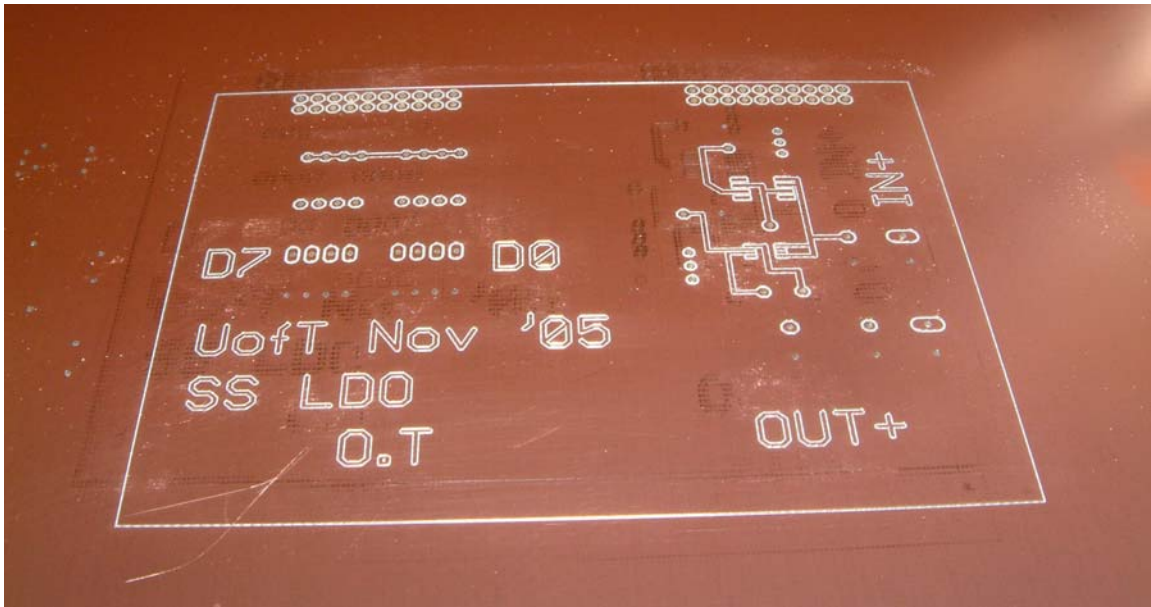

Figure 39: The top layer has been milled.
9. Once the process has completed (see Figure 39), click *goto > pause* and inspect the board. If the milling was not performed correctly, halt fabrication and seek assistance.